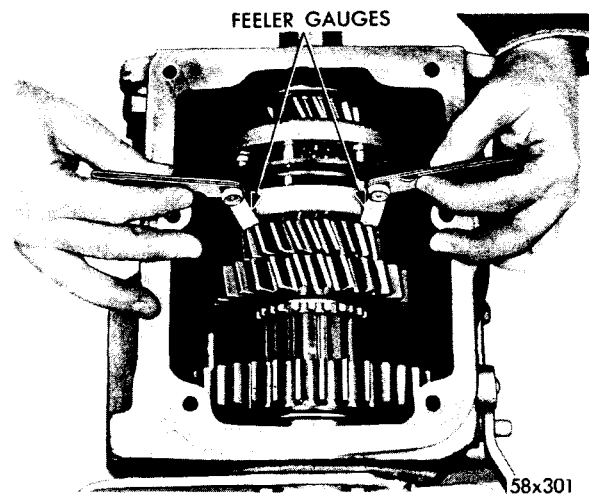

Fig 7. — Measuring Synchronizer End Play
d. Cover and Shift Fork Assembly (Fig. 7)